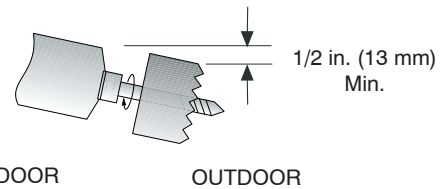

Fig. 8 – Drill Holes
1. Determine pipe hole position using the mounting plate as a template. Drill pipe hole diameter per chart below. The outside pipe hole is 1/2-in. (13 mm) min. lower than inside pipe hole, so it slants slightly downward (see Fig. 8). If piping is going to exit from the left rear, it is recommended to field-fabricate piping extensions to get the flare connections to the outside of the wall.
10. Connect refrigerant piping and drain line outside of indoor unit. Refer to Fig. 8 for proper installation of flare connections. Complete pipe insulation at flare connection then fasten piping and wiring to the wall as required. Completely seal the hole in the wall.